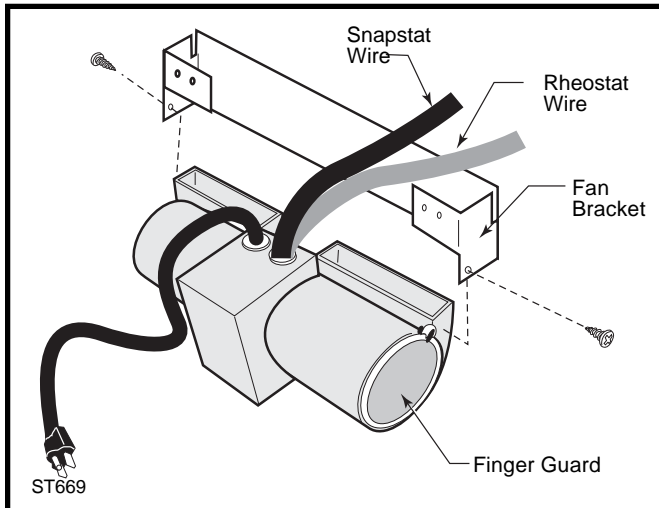

Fig. 10 Attach the fan assembly to the fan bracket.
4. Attach the fan assembly to the fan bracket provided in the log box. Use #10 sheet metal screws provided with fan kit. Do not remove finger guard screws.(Fig. 10)